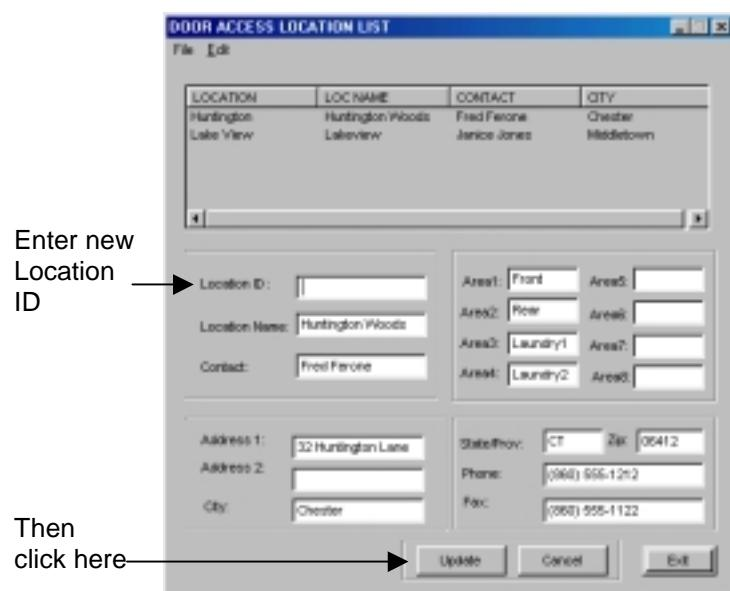

Figure 11.19 Completing the Cloning Process
4. Click the Update button to save the new Location (Figure 11.19).